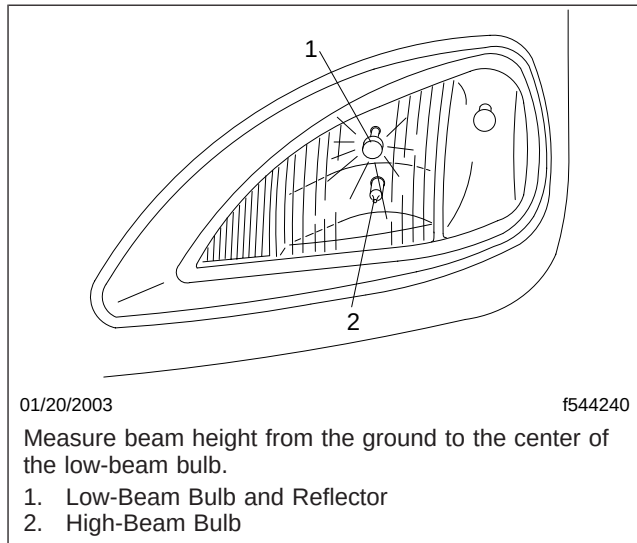

Fig. 14.2, Headlight Beam Height
2. On each headlight, find the bulb center. See Fig. 14.2.